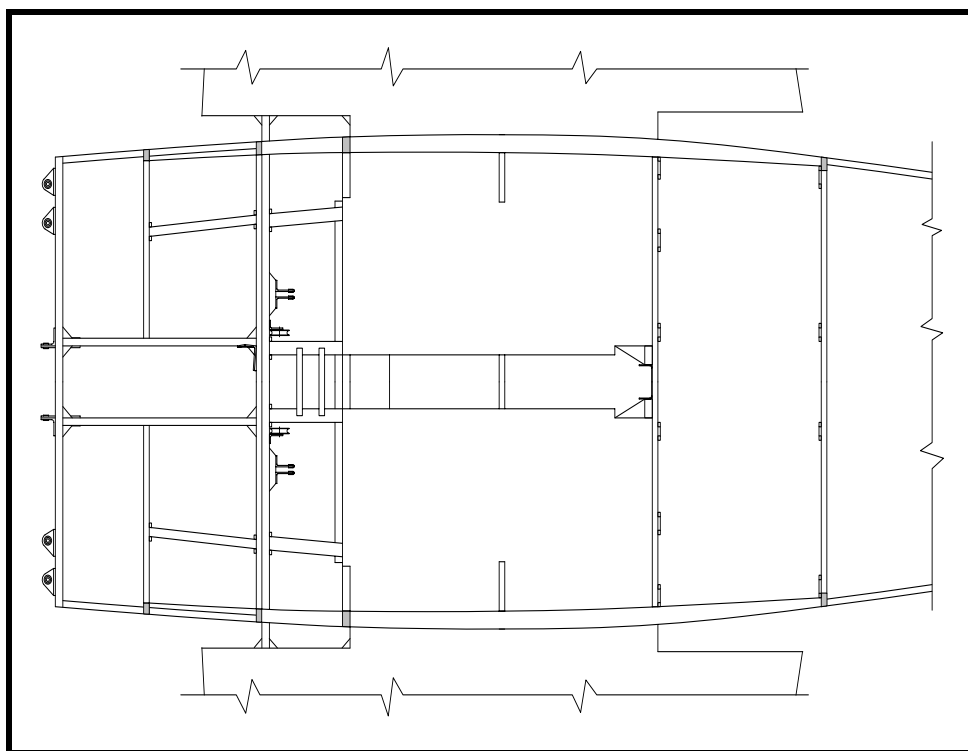

Figure 14
- ❑ Install corner blocks between the seat supports and the 20x20 spruce strip on the forward face of frame No. 6. The purpose of this is to provide some additional strength for the center seat belts. See Figure 14.